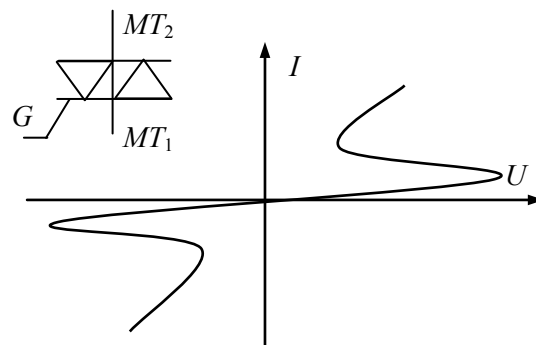

Fig. 1.53
**Triac.** A *triac* (*bi-directional thyristor*, *simistor*, *tetrode thyristor*) is a three-terminal five-layer device capable of conducting current in both directions. It is identified as a three-electrode ac semiconductor switch that switches conduction on and off during each alternation. Fig. 1.53 gives a typical current-voltage curve and a schematic symbol of the triac. The triac is the equivalent of the two reverse-parallel-connected thyristors with one common gate. Its terminals are marked as  $MT_1$  (main terminal 1),  $MT_2$  (main terminal 2), and G (gate).